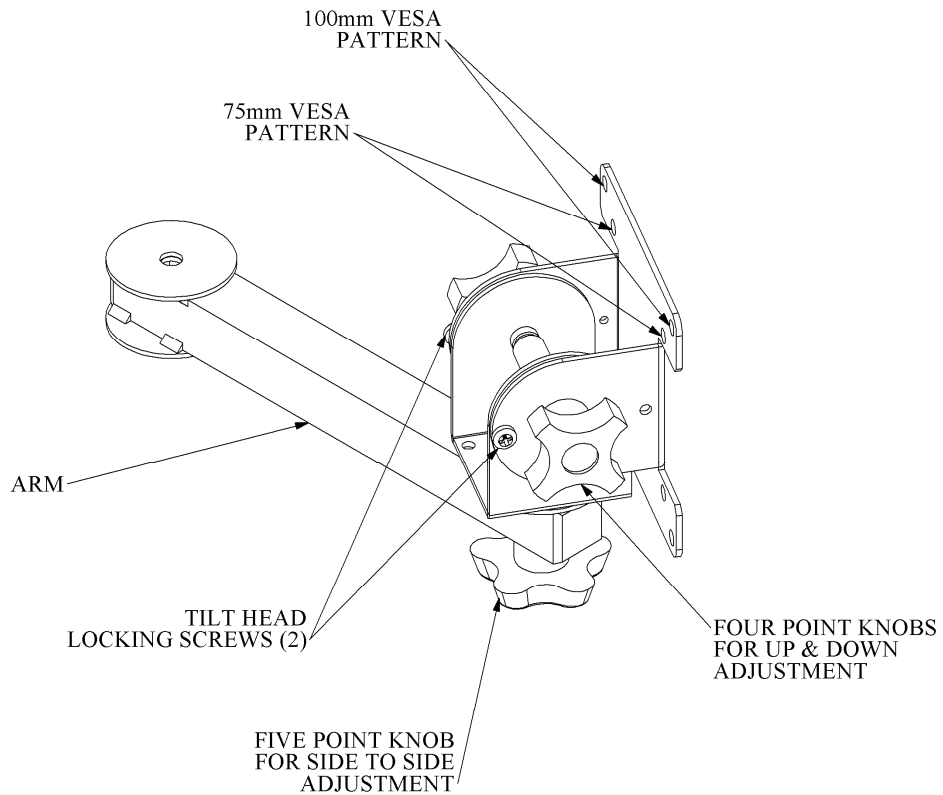

Figure 3 - An 8" arm and VESA tilt head
2. Slightly loosen the large five point knob below the end of the arm just enough so that the tilt head or printer tray will turn (See Figures 3, 4 and 5).
2. Slightly loosen both of the four point knobs on both sides of the tilt head just enough so that the monitor can be moved up and down slightly (See Figure 3).
2. Tighten the three locking knobs as firmly as possible using only your hands (See Figure 3).
1. Support the entire weight of the screen. Doing one at a time, carefully loosen the locking screws until only three threads of the end of the screw shaft can be seen protruding through the metal next to the anti-slip washer (See Figure 3).